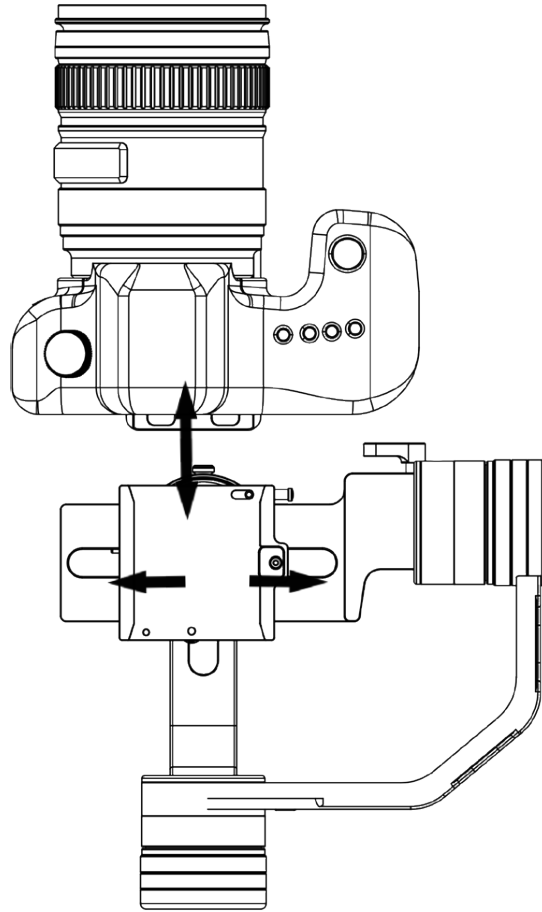

Fig. 5. Mounting the camera to gimbal base
- Install the camera with quick release mounted into the Beholder EC1 bottom mount base (Fig. 5).